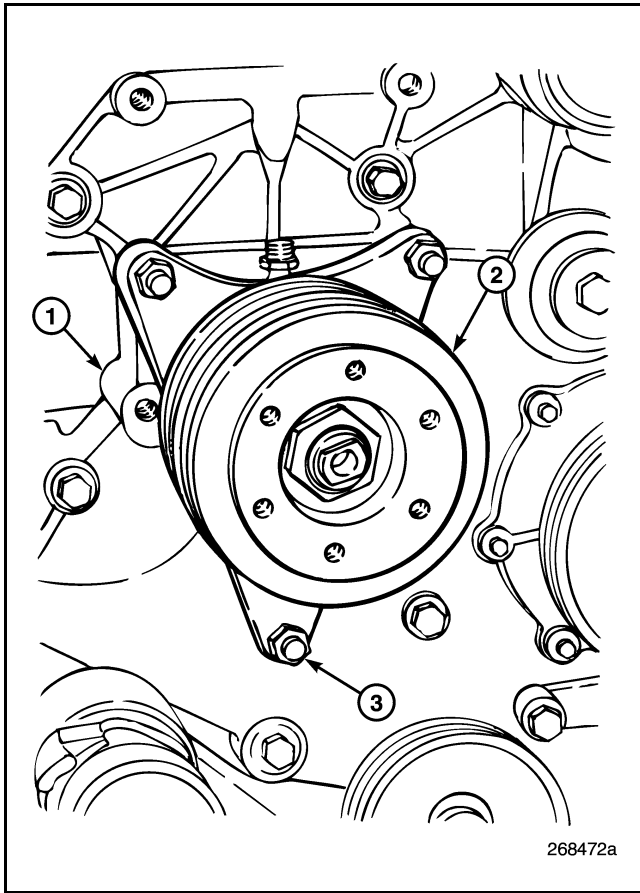

Figure 149 — Fan Drive Hub
To remove the pump housing, refer to Figure 149 as required to identify parts referenced in the steps below.
1. Remove the three mounting capscrews and remove the fan drive hub from the water pump housing (Figure 149).